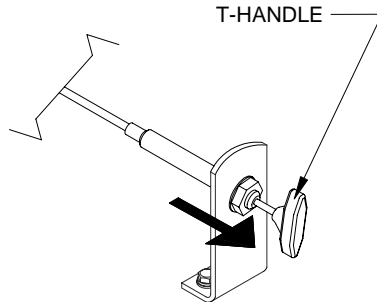

FIGURE 2-13: DISENGAGE PLATFORM FROM ENCLOSURE
- 3) Refer to **Figure 2-13**. Release the platform from the enclosure by pulling the T-handle outward about one to two inches and holding it out.